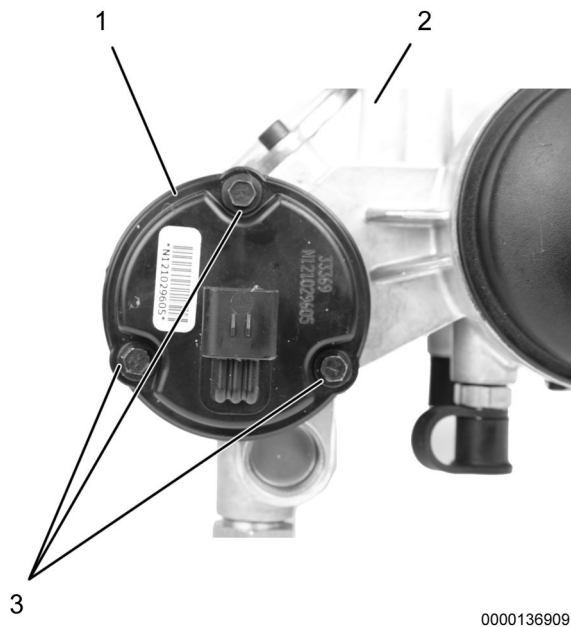

Figure 6. Pump Cover.
21. Remove three M5 x 25 screws (Figure 6, Item 3) and pump cover (Figure 6, Item 1) from fuel filter assembly (Figure 6, Item 2). Discard screws.